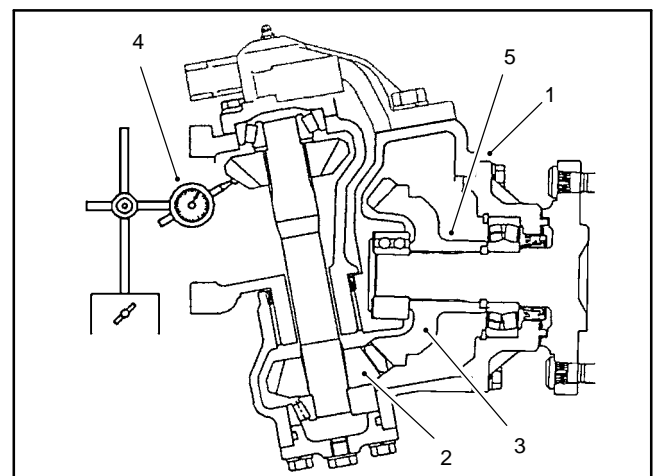

Figure 26
9. Remove the bevel gear case/axle case assembly from the axle support. Coat a new O-ring with grease and temporarily install the axle cover assembly. Position a dial indicator at the teeth center. Prevent the axle from turning and measure the lower bevel gear to axle gear backlash (Fig. 26).